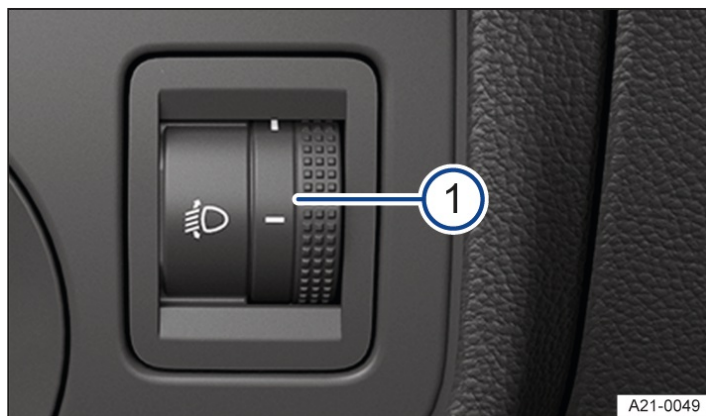
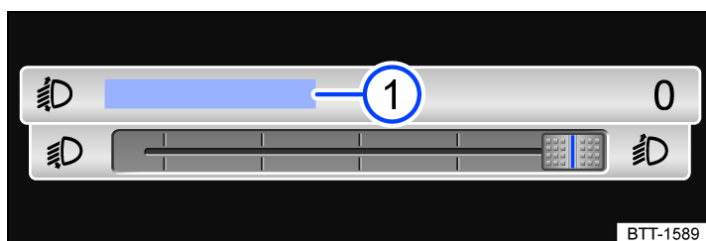

Fig. 1 Next to the steering wheel: control for headlight range control.
Fig. 2 In the Infotainment system: Touch control for headlight range control.
Depending on the vehicle equipment, the headlight range can be adjusted with the → *fig. 1* ① control or with the touch control in the Infotainment system → *fig. 2* ①.
5. Move the touch control to the required position (example vehicle load) → *fig. 2* ①.
1. Turn the control → *fig. 1* ① to the required position (example vehicle load).